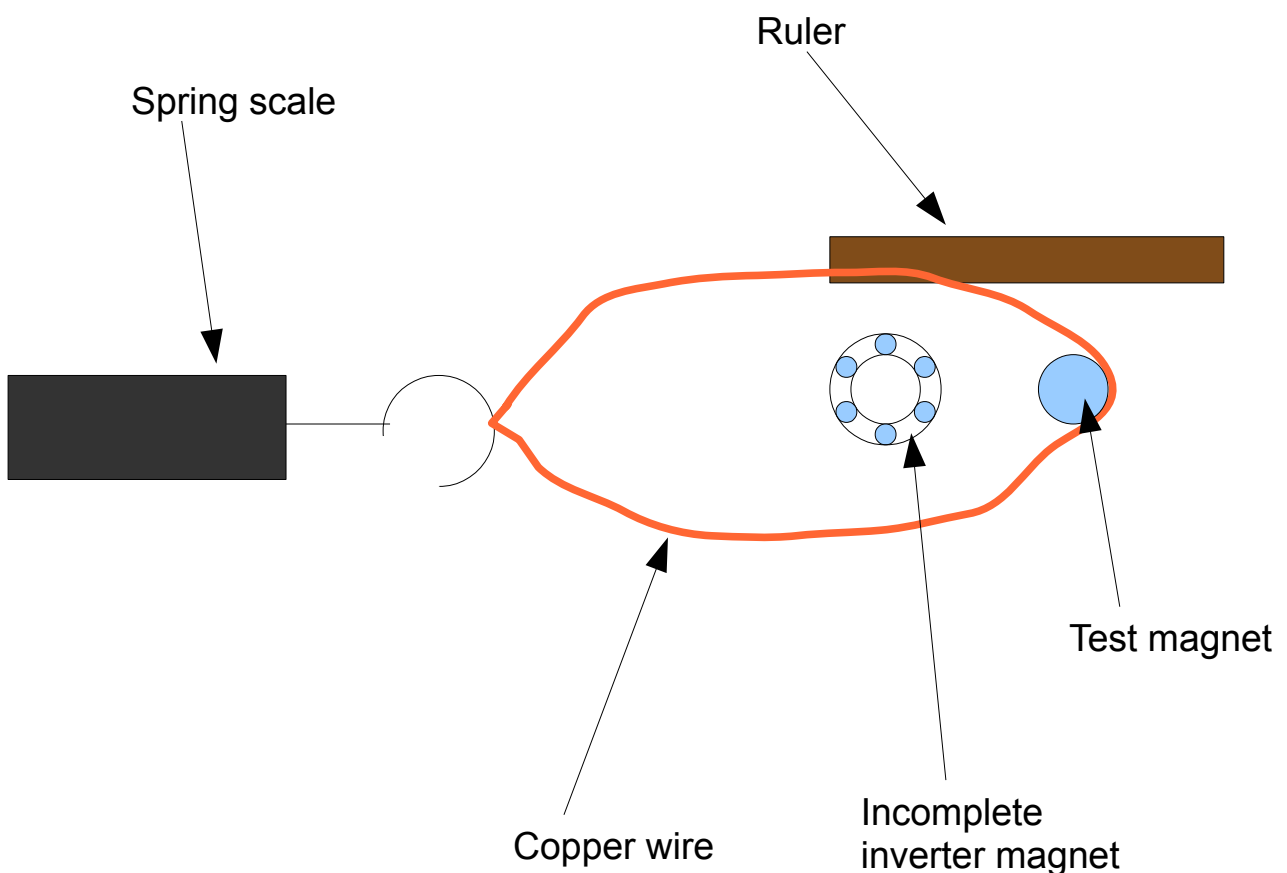

Figure 4: The initial setup for measuring the force exerted by an inverter magnet with the central magnet removed.
Step 3: Place the test magnet at the equilibrium separation you found in experiment 2 (keeping the same alignment you used for that experiment). Use the loop of copper wire attached to the spring scale to keep the test magnet from drifting further away as shown in figure 4.
Step 11: Loop the the copper wire round the test magnet round the test magnet as shown in figure 4 and measure the force exerted by the inverter magnet (with and without friction) on the test magnet the same way you did in steps 4 and 5 (try to take measurements in the same positions as you have for the previous readings).